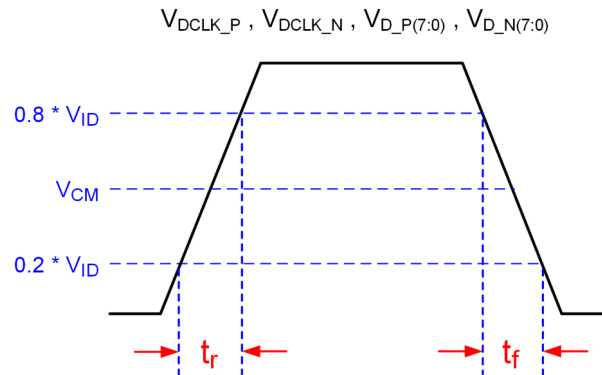

图 6-4. SubLVDS Input Rise and Fall Slew Rate
- (1) The DMD is designed to conduct absorbed and dissipated heat to the back of the package. The cooling system must be capable of maintaining the package within the temperature range specified in the Fig 6.4. The total heat load on the DMD is largely driven by the incident light absorbed by the active area, although other contributions include light energy absorbed by the window aperture and electrical power dissipated by the array. Optical systems should be designed to minimize the light energy falling outside the window clear aperture since any additional thermal load in this area can significantly degrade the reliability of the device.
- (1) Device electrical characteristics are over Fig 6.4 unless otherwise noted.
- (2) All voltage values are with respect to the ground pins (V_{SS}).
- (3) To prevent excess current, the supply voltage delta |V_{DDI} - V_{DD}| must be less than the specified limit.
- (4) Supply power dissipation based on non-compressed commands and data.
- (5) To prevent excess current, the supply voltage delta |V_{BIAS} - V_{OFFSET}| must be less than the specified limit.
- (6) Supply power dissipation based on 3 global resets in 200 μs.
- (7) The following power supplies are all required to operate the DMD: V_{DD}, V_{DDI}, V_{OFFSET}, V_{BIAS}, V_{RESET}. All V_{SS} connections are also required.
- (8) LPSDR specifications are for pins LS_CLK and LS_WDATA.
- (9) Low-speed interface is LPSDR and adheres to the Electrical Characteristics and AC/DC Operating Conditions table in JEDEC Standard No. 209B, *Low-Power Double Data Rate (LPDDR)* JESD209B.
- (10) LPSDR specification is for pin LS_RDATA.
| t _r | Rise slew rate | 20% to 80% reference points, 图 6-4 | 0.7 | 1 | | V/ns |
| t _f | Fall slew rate | 80% to 20% reference points, 图 6-4 | 0.7 | 1 | | V/ns |